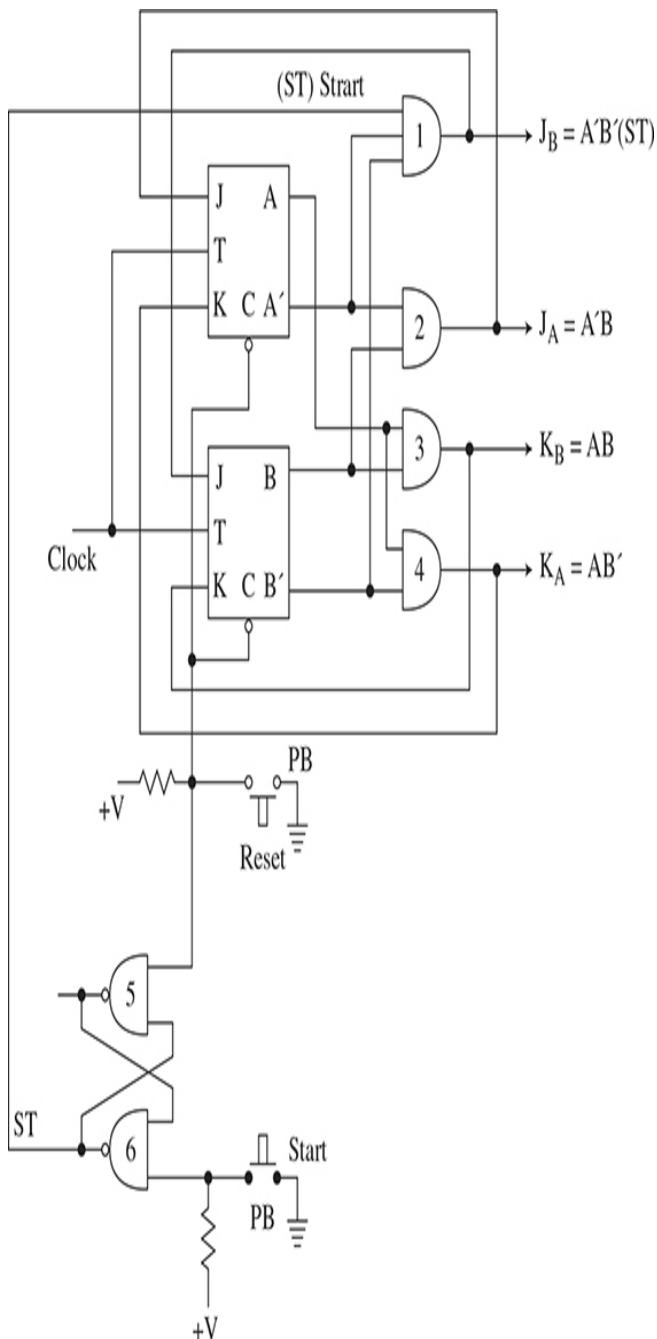

Figure 11.19 The complete circuit of the example machine.
7. The logic diagram can now be drawn given these logic conditions. Figure 11.19 shows the basic implementation. There are two JK flip flops and four AND gates that develop these logic signals. You can trace through the logic circuit to show how the various states set up the logic conditions on the J and K inputs.